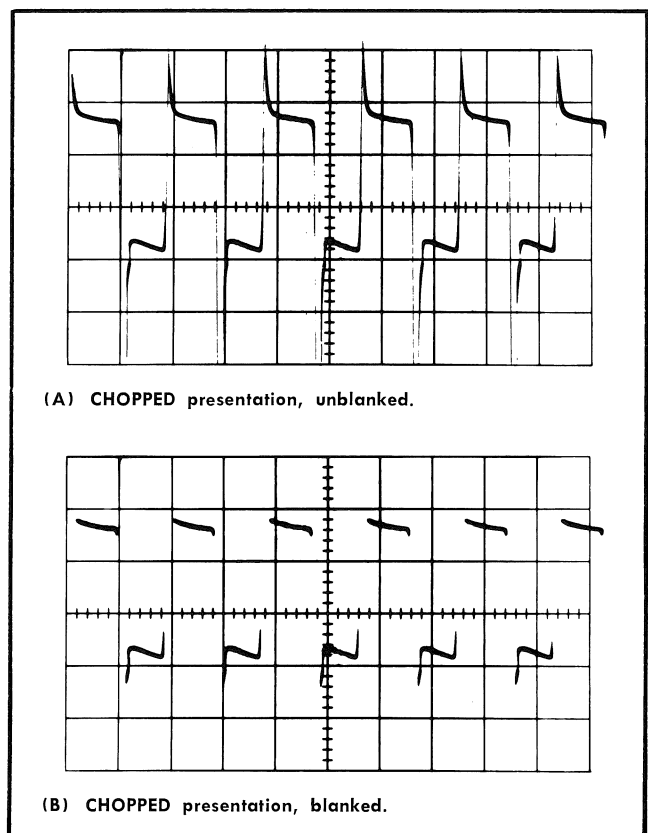

Fig. 5-4. CHOPPED signal presentation; 10 μ s/cm sweep rate.
e. Adjust the triggering controls as necessary to obtain a stable display; check the chopped waveform for between 8 and 12 cycles per 10 cm. See Fig. 5-4 (A).
b. Set the indicator oscilloscope CRT Cathode Selector switch (rear of oscilloscope) to Chopped Blanking and check the CRT display for blanking of the vertical portions of the chopped waveform. See Fig. 5-4 (B).